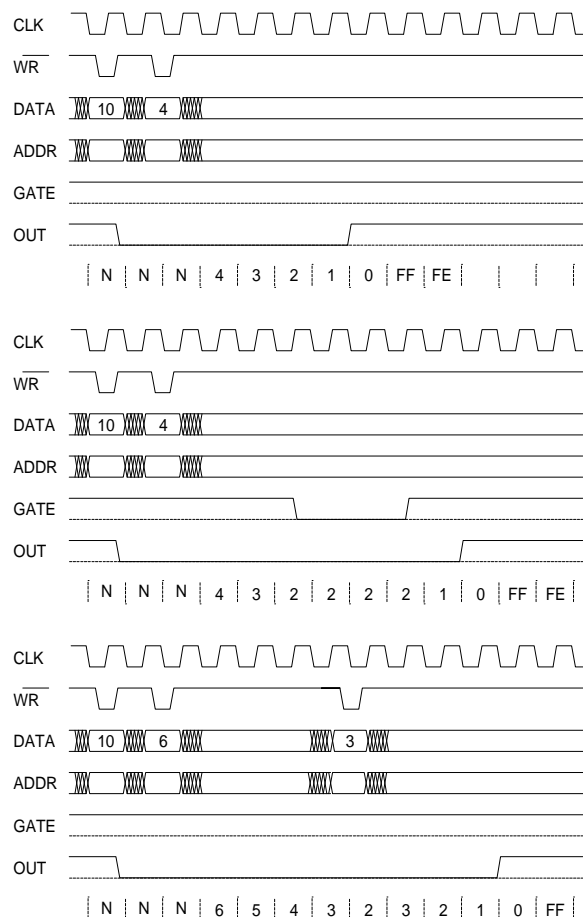

FIGURE 6 - COUNTER MODE 0 REPRESENTATIVE
After a control word and counter data (N) are written to the Count Value Register, the counter will be loaded on the next Clock Pulse and the counter will begin counting down from the count value on the next clock pulse. The output will go high on N+1 clock pulses after the count is written as illustrated in Figure 6.